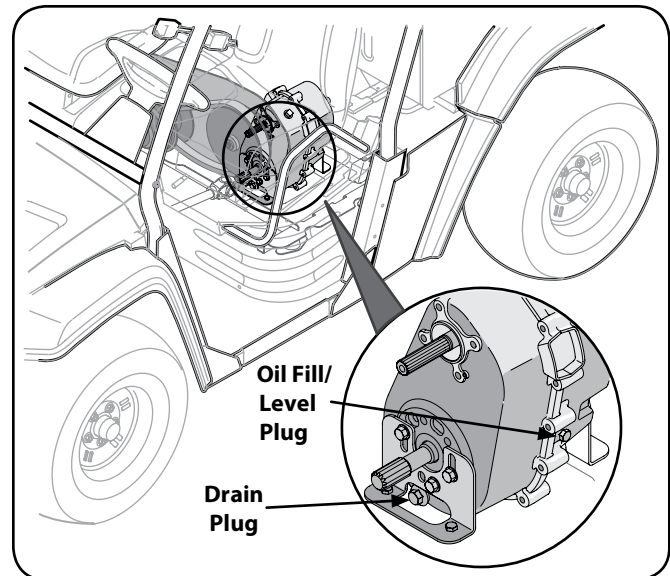

Figure 5-5
4. Access drain plug through slot on underside of UV and remove plug. See Figure 5-5.